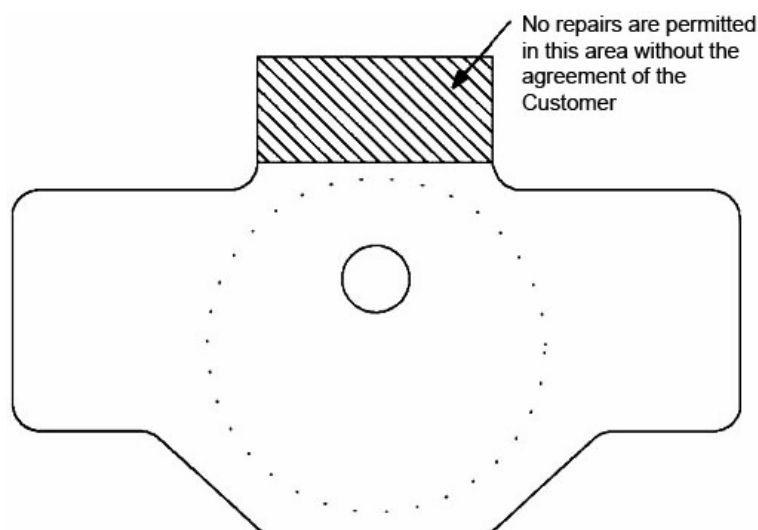

Figure 1: Spring Plank End Casting
3. Examine the spring plank casting for defects and corrosion. If defects are suspected, confirm using a suitable method. Corrosion up to 1mm deep is permitted on the ribs on the underside of the casting. Up to 4mm loss of thickness on the top plate is acceptable but this must include any casting defects. If corrosion exceeds this then seek advice from the Engineer. See Figure 1 for identification of critical area.